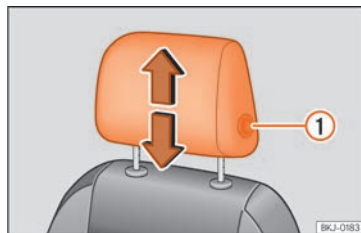
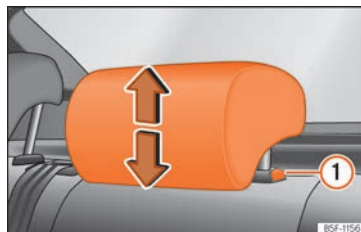

Fig. 109 Front seat: headrest adjustment.
Fig. 110 Rear headrest: headrest adjustment. »
- Move the headrest up or down in the direction of the corresponding arrow. Regarding the rear headrest, to both raise and lower, press the button »» Fig. 109 ①; for the rear headrests it is only necessary to press the button »» Fig. 110 ① to lower them »» ⚠ in Introduction on page 125.
- Press the side button »» Fig. 109 ① and remove the headrest.